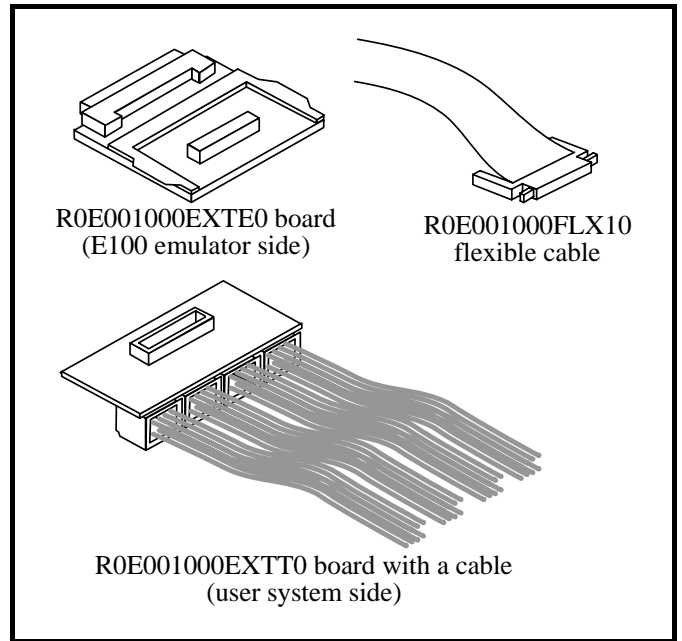

Figure 1 Package Components of the R0E001000EXT
2. Package Components (See Figure 1)